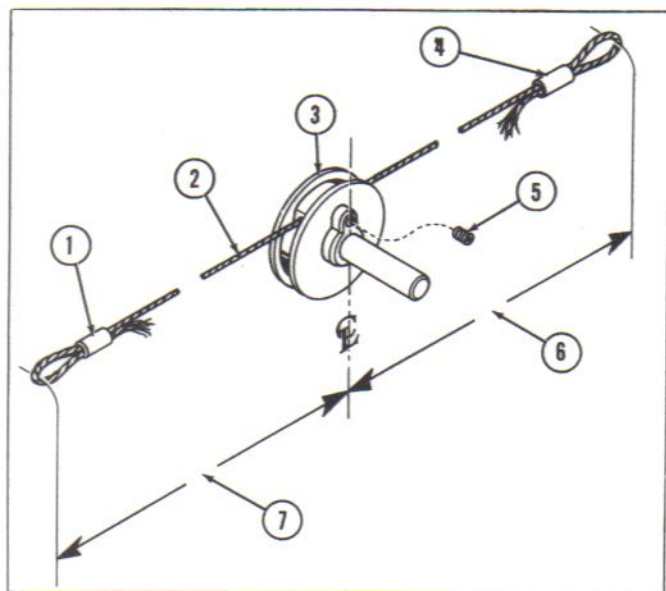

Fig. 76. INSTALLATION OF TURNTABLE CABLE
(1) To install a new cable for the turntable actuating shaft assembly, pass the cable through the hole in the drive pulley (Fig. 76, Item 3). Slide the clamps (Items 1 & 4) on the cable ends and form a loop 3/4 of an inch long at each end, fastening with the clamp. Adjust the cable through the pulley to the dimension shown at Items 6 and 7 and lock securely with the set screw (Item 5).